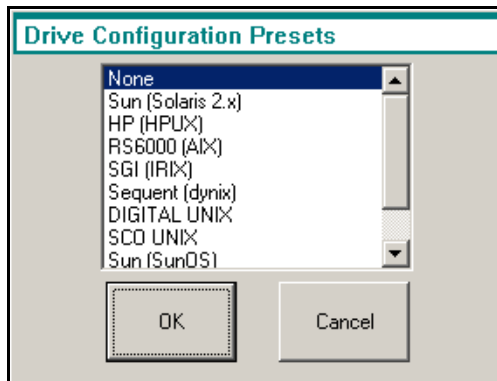

Figure 11-5 The Drive Configuration Presets window.
15. Tap **Presets** to select drive switch settings and emulation for your operating system (Figure 11-5). Select your operating system and tap **OK**. If the selections do not include your operating system, tap **Cancel**.